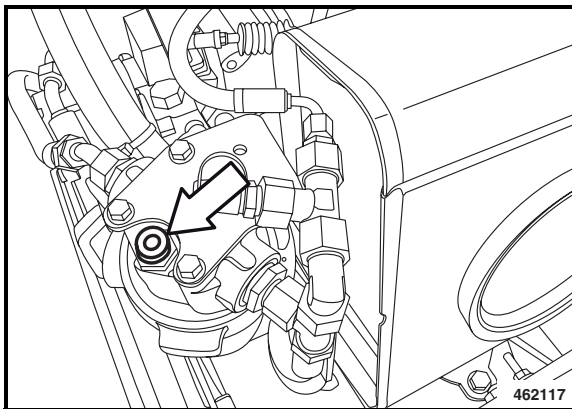

Fig. 117
- Check the contamination indicator (Fig. 117) at operating temperature and with the engine running at maximum speed.